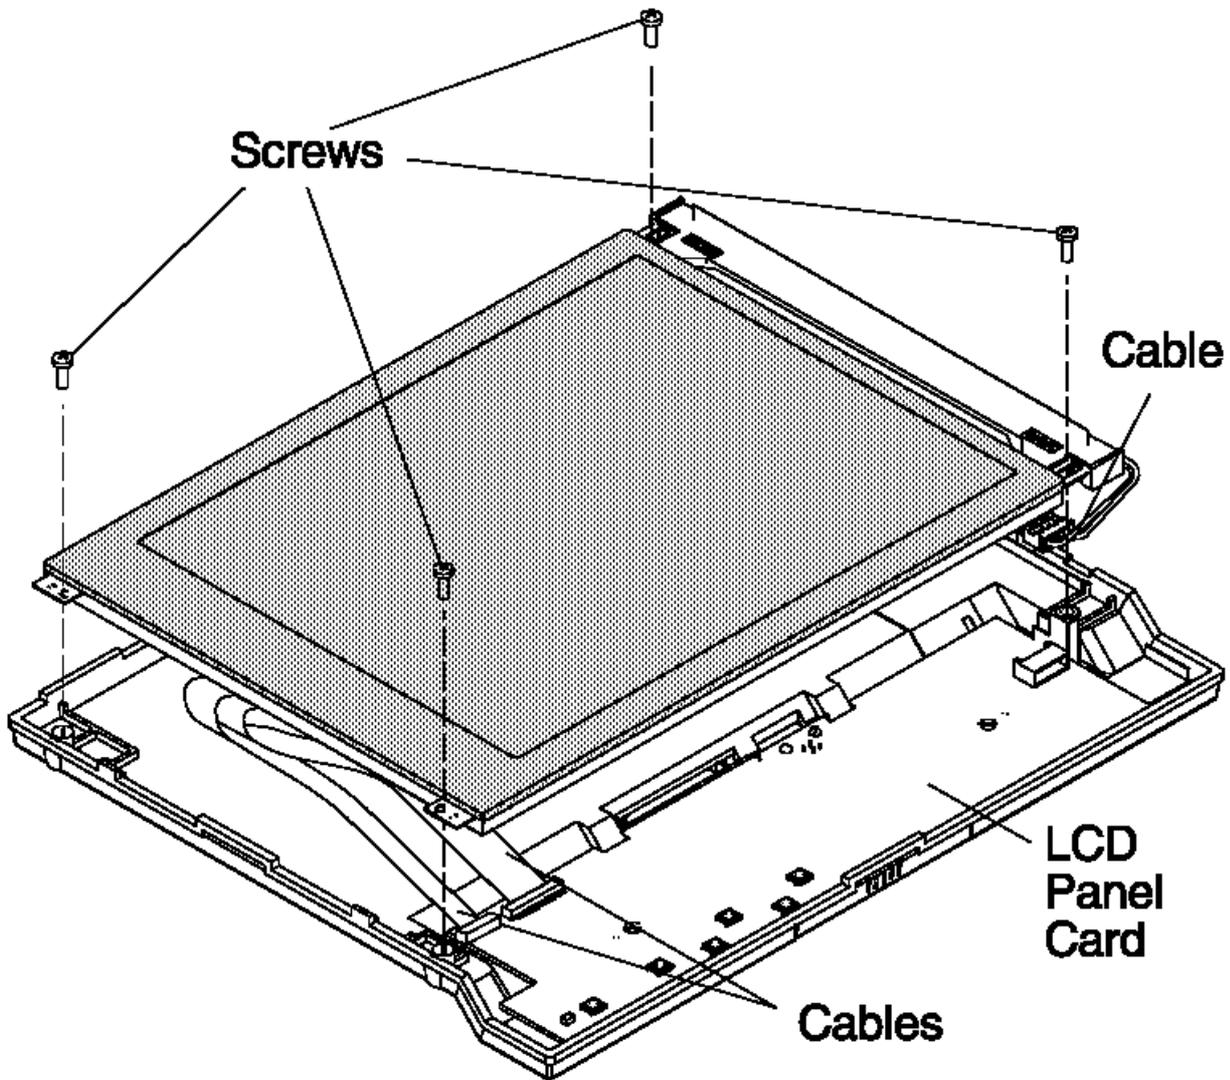

Figure 3-4. Removing the LCD module
2. Remove the 4 screws (2). See Figure 3-4.
3. Disconnect the cables (3) and (4) attached to the LCD panel card and lift the LCD module assembly out.
1. Remove the LCD module assembly. See Figure 3-4 in topic 3.3.2.